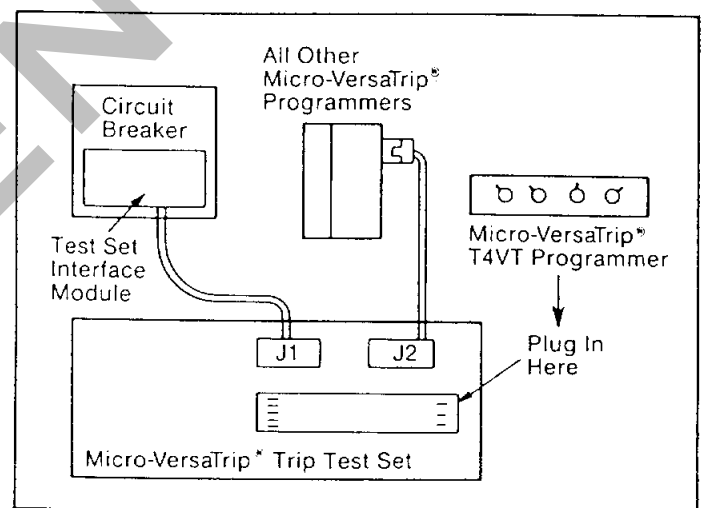

Fig. 5. Connection for "COMPLETE SYSTEM" Test
3. It is not necessary to make any connection to the circuit breaker for "PROGRAMMER ONLY" testing. The Fig. 5 connection must be used if "COMPLETE SYSTEM" tests are to be run.
"COMPLETE SYSTEM" Test—Mode "2" (See Fig. 5)